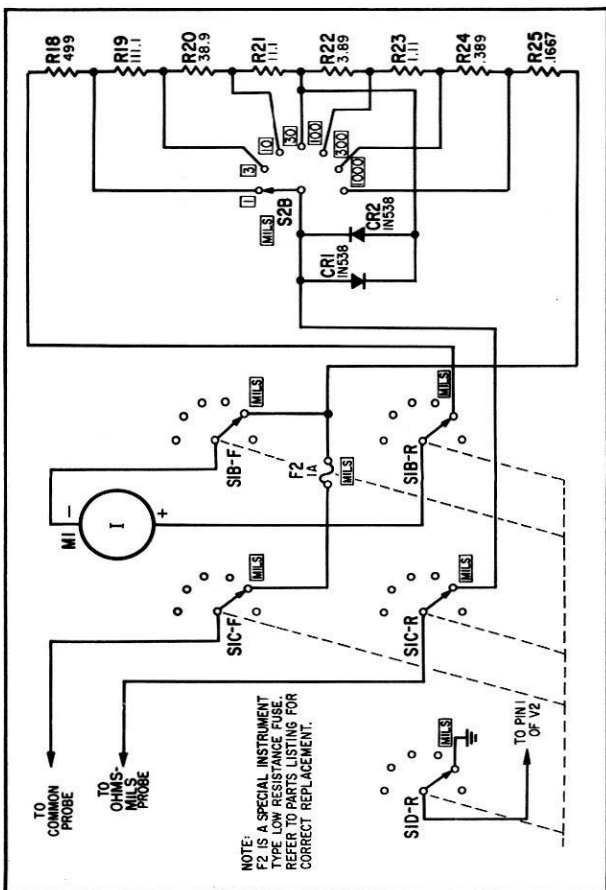

Figure 4-6. DC Milliampere Circuit, Schematic Diagram
e. DC MILLIAMPERE CIRCUIT (see figure 4-6). DC current up to 1,000 milliamperes can be measured. For measurement of current flow the COM and OHMS-MILS probes are connected in series with the circuit under test. The current flows to switch S1, then through fuse F2 to meter M1. The meter is connected in parallel with the resistors in the mils attenuator. Two high-resistance diodes (CR1 and CR2) are connected in parallel across the low resistance precision resistors; one in the forward direction, the other in the reverse direction. When a current in excess of 1,000 ma is applied, the diodes pass this current allowing time for fuse F2 to open circuit. This prevents any damage to the meter and to the shunt precision resistors. Under normal operating conditions the diodes act as open circuits and do not conduct.